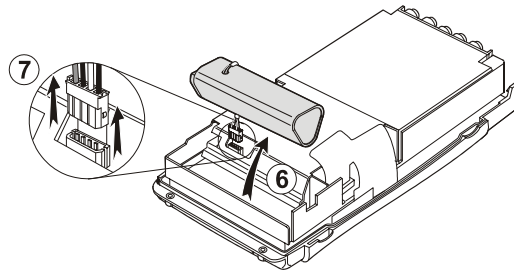

Figure 6-5. Removing the Battery Pack
6. Unplug and lift out the battery pack (Figure 6-5).